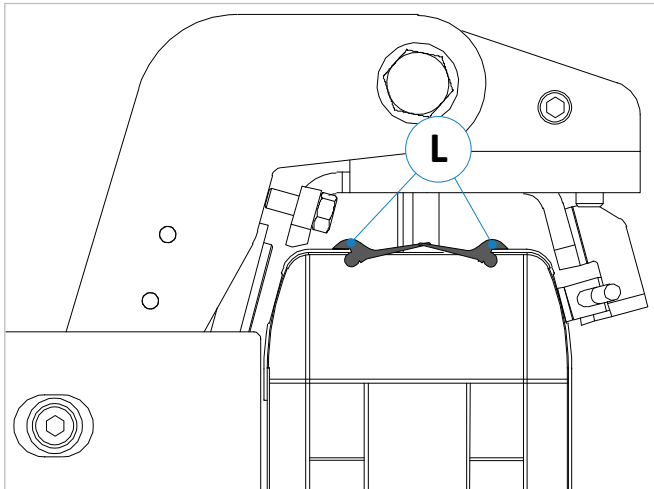

Figure 9: Fitting the rubber seals
2. Then slide on the two sealing lips (L) from the profile front side (see ⇒ Figure 9). **Note:** If it is difficult to move, wet the seal lips with a little silicone spray or washing-up liquid to make the seals a little more slidable. **Please note: Never use oil, grease or aggressive agents for this purpose!**